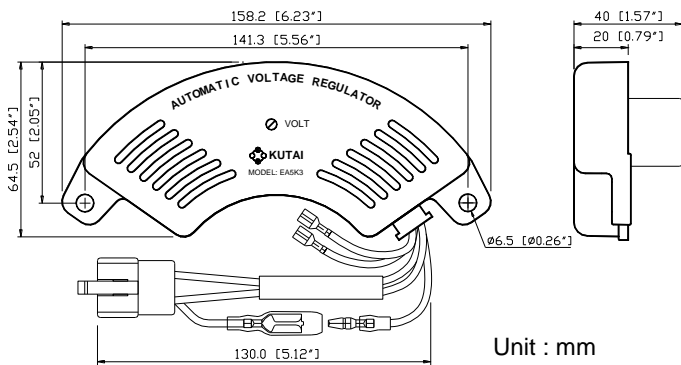

Figure 2 Outline Drawing
1. AVR can be mounted directly on the engine, genset, switchgear, control panel, or any position that will not affects operation. For dimension reference, please see Figure 2.
CN1 Connection incorrect	Reference from Figure 2 to correct connection